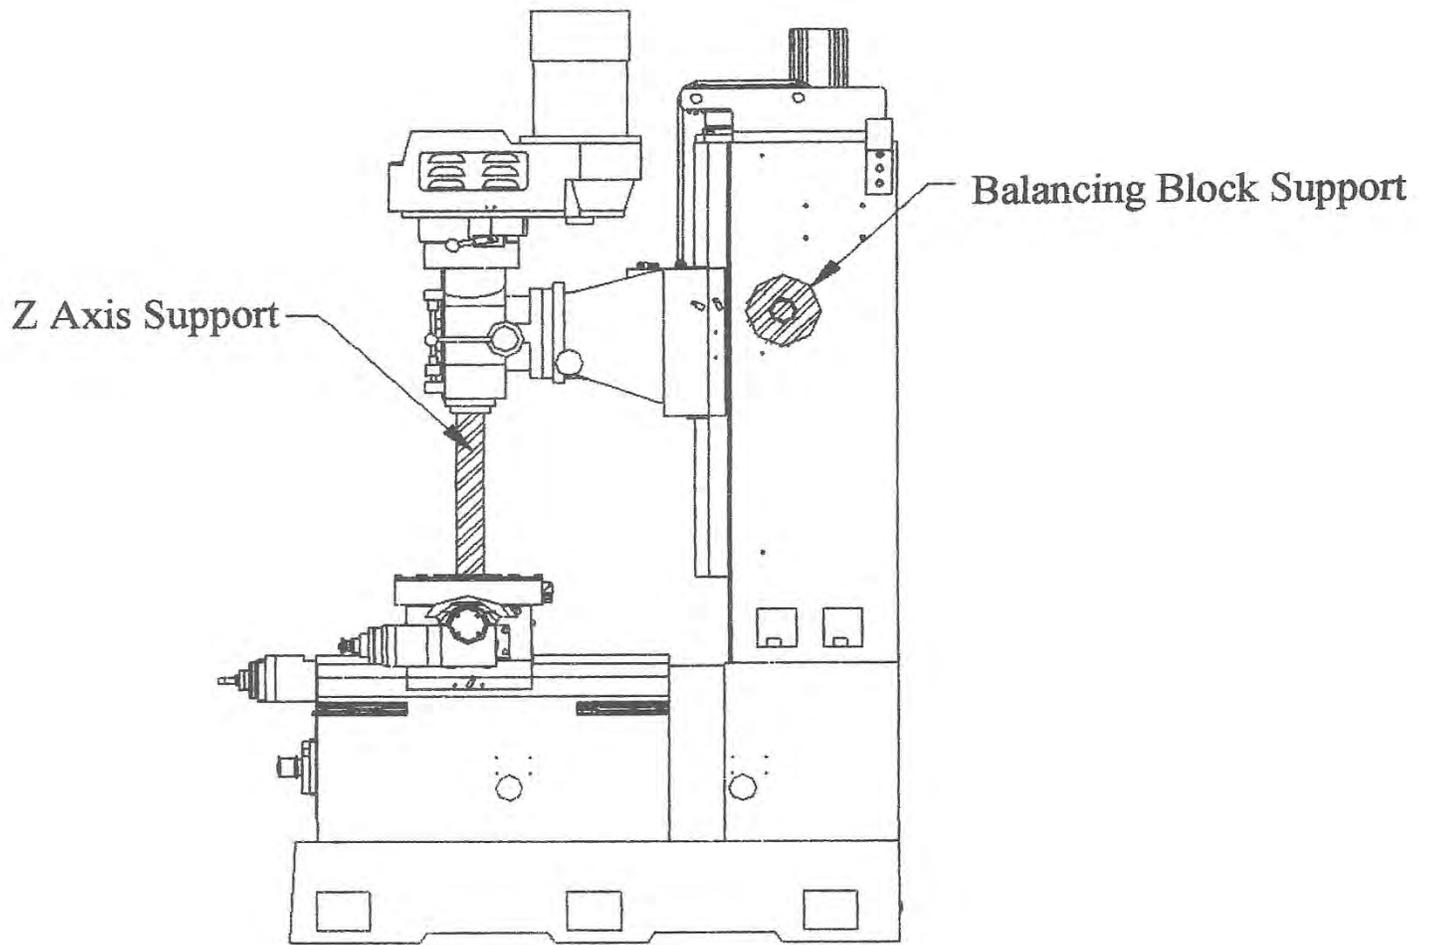

Figure 5-1
- c. Z axis ball screw is fixed by the wooden block under the spindle nose. (Fig 5-1)
- d. Balancing block is tightened at column. (Fig 5-1)